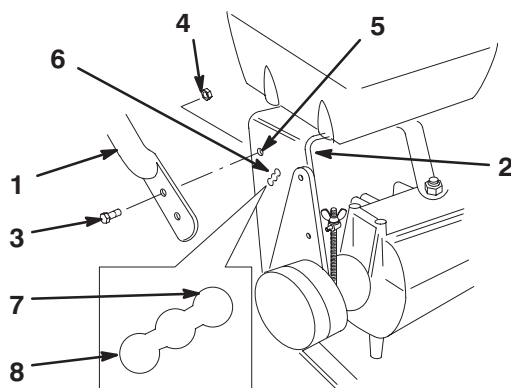

Figure 4
- Align upper handle with upper mounting holes in rear frame (Fig. 4).
- Secure each upper mounting hole with a flange bolt (3/8 x 1 in. (26mm)) and flange nut (Fig. 4). Torque bolts to 25 ft. lbs. (34 N.m).
- Select high, medium or low position for the lower mounting hole (Fig. 4). This allows the upper handle to be adjusted to the user's height preference.
- Secure each lower mounting hole with a flange bolt (3/8 x 1 in. (26mm)) and flange nut (Fig. 4). Torque bolts to 25 ft. lbs. (34 N.m).